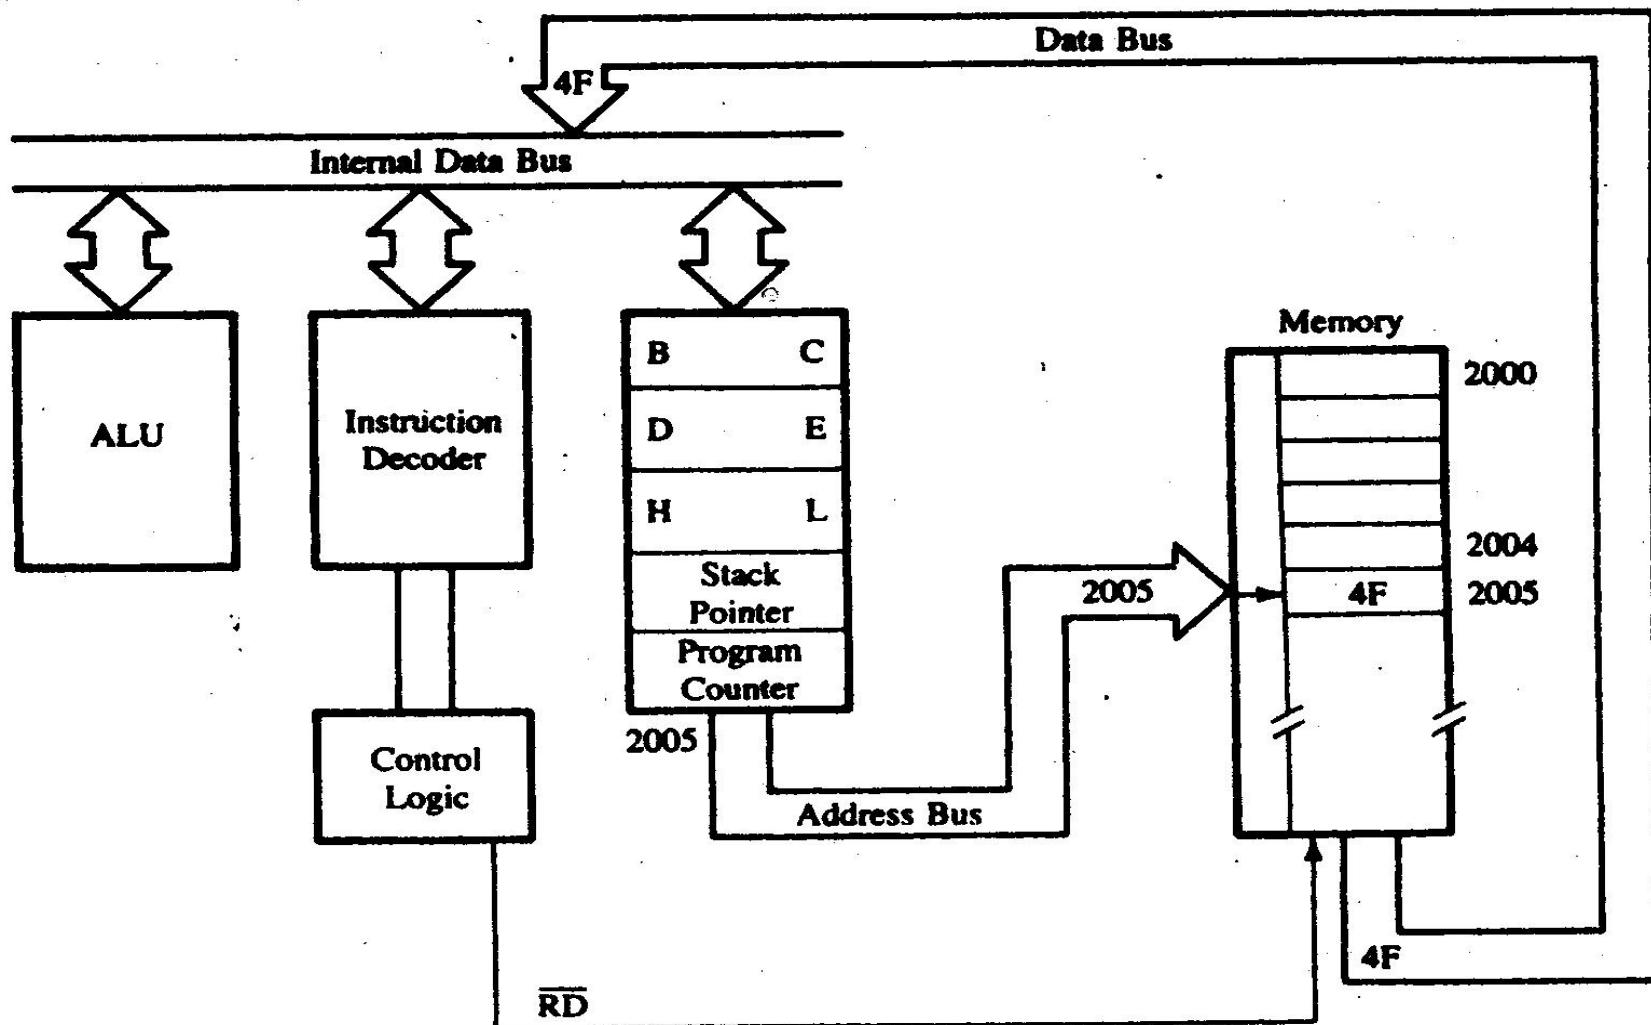

FIGURE 3.2
Step 1: The program counter places the 16-bit memory address on the address bus (Figure 3.2).
Step 2: The control unit sends the control signal RD to enable the memory chip (Figure 3.2).